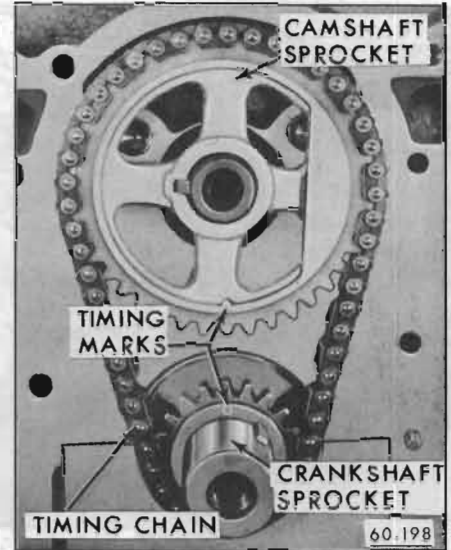

Figure 60-241—Installation of Timing Chain and Sprocket
1. With timing chain cover removed (subpar. a above) temporarily install crankshaft pulley bolt and washer in end of crankshaft. Turn crankshaft so sprockets are positioned as shown in Figure 60-241. Remove crankshaft pulley bolt and washer using a sharp blow on the wrench handle, so that the bolt can be started out without changing position of sprockets.
2. Turn camshaft so with sprocket temporarily installed, timing mark is straight down. See Figure 60-241. Remove sprocket.
3. Assemble timing chain on sprockets and slide the sprocket and chain assembly on the shafts with the timing marks in their closest together position and in line with the sprocket hubs. See Figure 60-241.